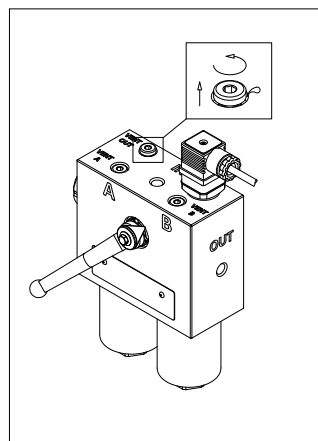

fig. 29
- (Fig. 29) Bleed the air from the system through the "Vent OUT" breather plug loose by a maximum of one turn, until the operating fluid starts oozing